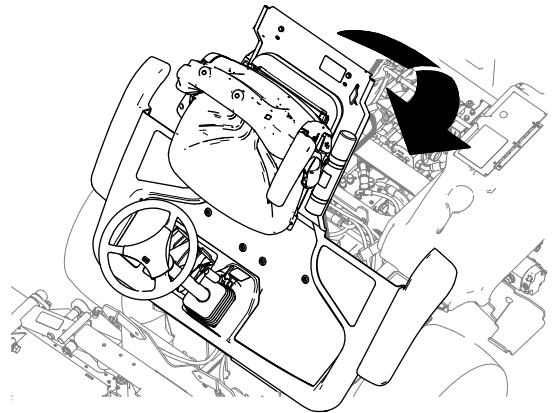

Figure 53
1. Lower the platform carefully (Figure 53).